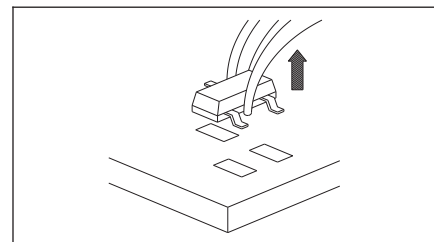

Figure 3 Lift Component
8. Grasp component with tweezers and lift away from PCB. (See Figure 3.)